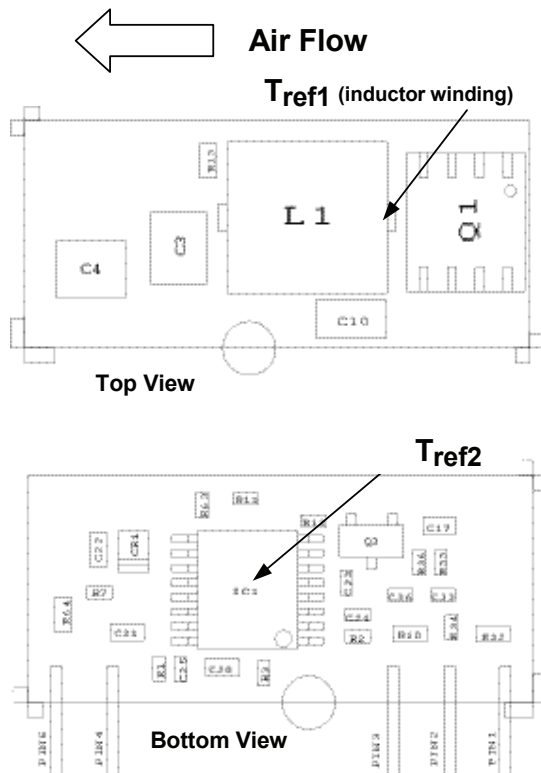
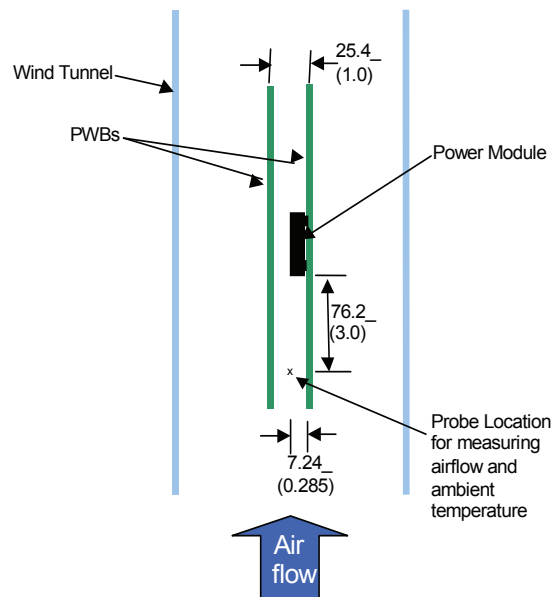

Figure 32. T_{ref} Temperature measurement location.
Figure 33. Thermal Test Set-up.
To provide over temperature protection in a fault condition, the unit relies upon the thermal protection feature of the controller IC. The unit will shutdown if the thermal reference point T_{ref2} , (see Figure 33) exceeds $140^{\circ}C$ (typical), but the thermal shutdown is not intended as a guarantee that the unit will survive temperatures beyond its rating. The module will automatically restarts after it cools down.
Considerations include ambient temperature, airflow, module power dissipation, and the need for increased reliability. A reduction in the operating temperature of the module will result in an increase in reliability. The thermal data presented here is based on physical measurements taken in a wind tunnel. The test set-up is shown in Figure 33. Note that the airflow is parallel to the long axis of the module as shown in Figure 32. The derating data applies to airflow in either direction of the module's long axis.
The thermal reference point, T_{ref1} used in the specifications of thermal derating curves is shown in Figure 32. For reliable operation this temperature should not exceed 125°C.